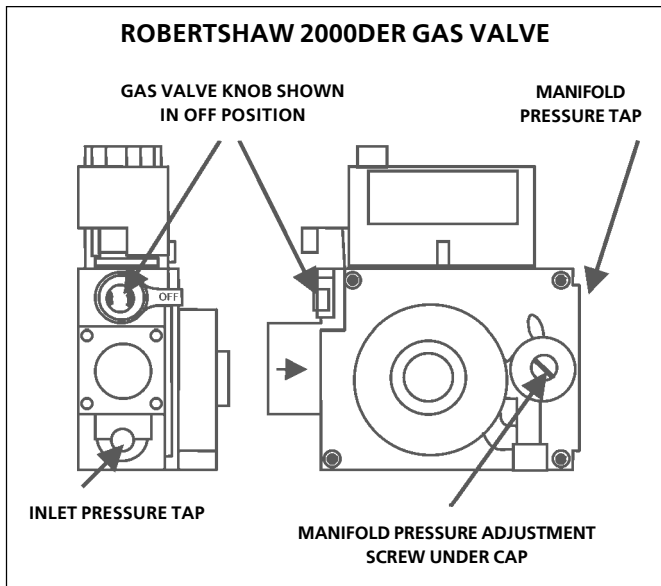

FIGURE 10
GAS VALVE OPERATION FOR ROBERTSHAW 2000DER SERIES VALVE (FIGURE 10)
5. Depress knob on gas valve; knob will snap to OFF. (See Figure 10)
2. After line pressure has been checked and adjusted, check manifold pressure. Correct manifold pressure is shown on the unit rating plate. See **figure 10** for gas pressure adjustment screw location. A natural gas to LP/propane gas changeover kit is required to convert unit. Refer to installation instructions provided with changeover kit for conversion procedure.